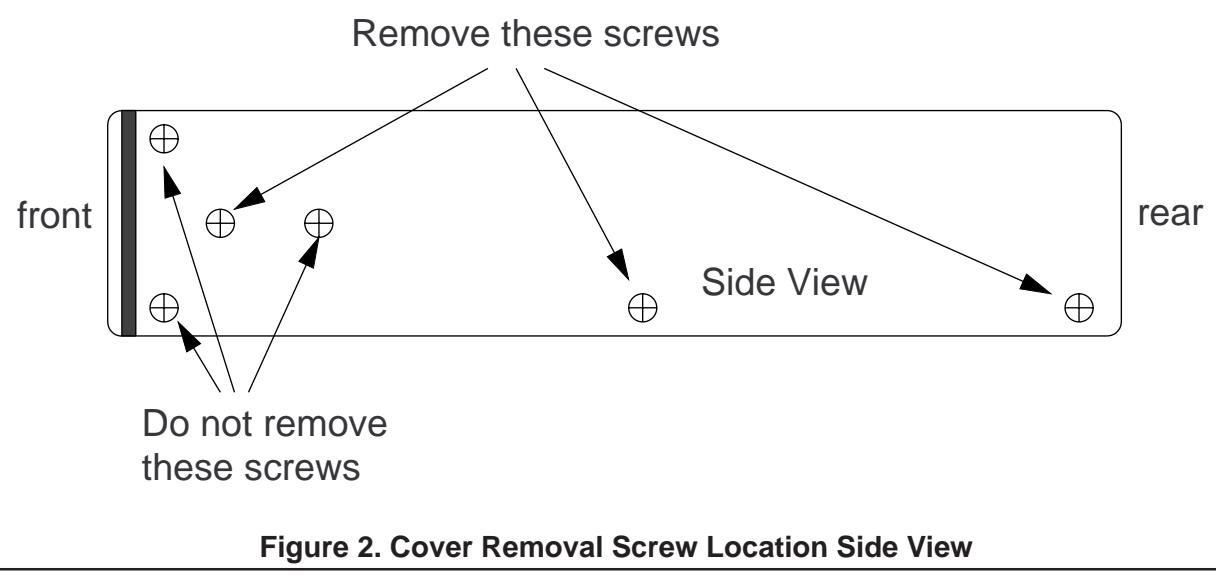

Figure 2. Cover Removal Screw Location Side View
**Note:** Refer to Figures 2, 3 and 4 for the following procedures.
**1.1** Use a phillips-head screwdriver to remove seven screws (3) from the back and sides of the chassis cover (1) and the two longer screws that are located in the center behind the rack-mount brackets. See Figure 2.
**2.2** Secure the cover to the chassis by tightening seven screws (3) and the two longer screws located in the center behind the rack-mount brackets with a phillips-head screwdriver. See Figure 2.